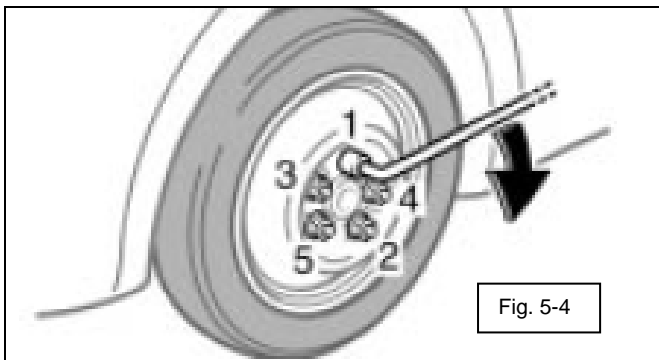

Fig. 5-4
(1) Install wheel nuts (tapered side against the wheel.)
(2) Tighten in a star pattern. (Fig. 5-4)